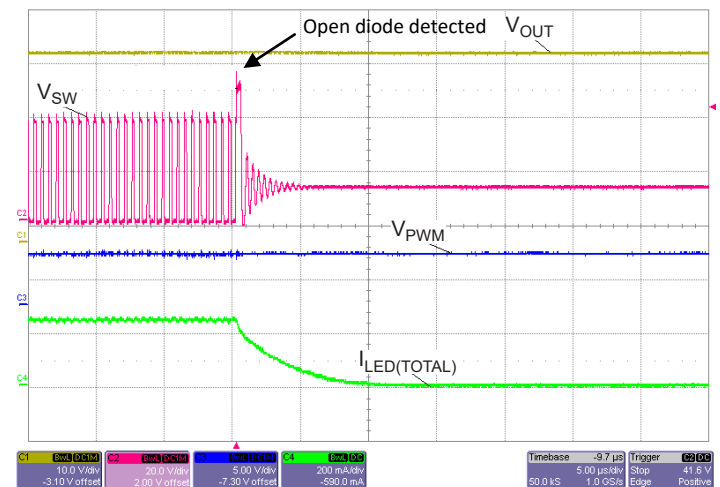

Figure 23: Open Schottky Diode Protection
Figure 23 illustrates open Schottky diode protection while the IC is in normal operation. As soon as the switch node voltage (SW) exceeds 48 V, the IC will shut down. Due to small delays in the detection circuit, as well as there being no load present, the switch node voltage (V_{SW}) will rise above the trip point voltage.